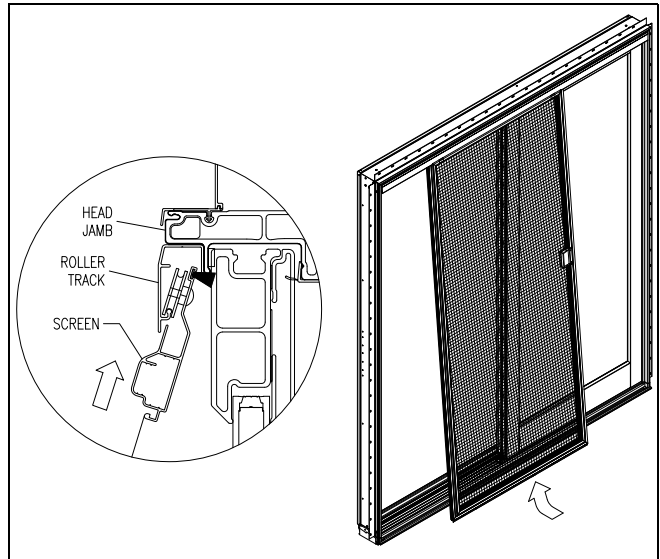

Figure 7
2. Once the sill end of the screen panel is completely released from the sill track, pivot the bottom of the screen out and push the panel toward the head jamb. This will release the screen panel rollers from the head jamb screen track. Remove the panel from the door. See Figure 7.